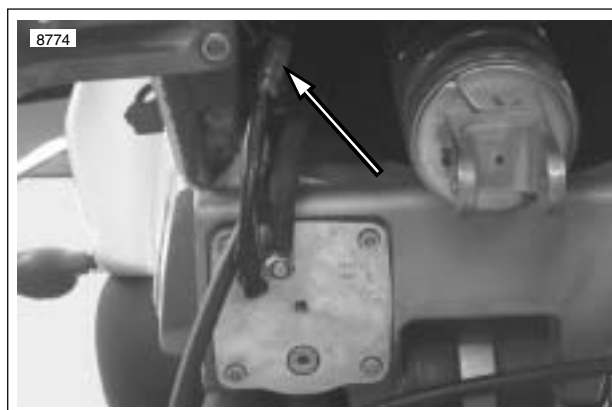

Figure 4-23. Fuel Pump Connector [86] (swingarm removed for illustration)
- a. See Figure 4-23. Disconnect the 4-place fuel pump connector [86]. The connector is located inside the left rear portion of the fuel tank/frame.
7. See Figure 4-23. Attach fuel pump connector [86] to main wiring harness.